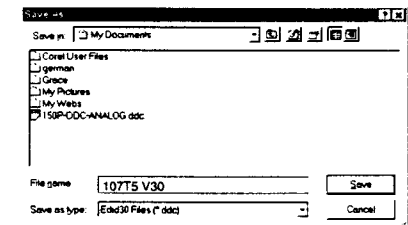

Fig. 19
1. Click (Save) icon (or click "file->save as") from the tool bar and give a file name as shown in Fig. 19. The file type is EDID301 file (*.ddc) which can be open in WordPad. By using WordPad, the texts of DDC data & table (128 bytes, hex code) can be modified. If DDC TEXTS & HEX Table are completely correct, it can be saved as .ddc file to re-load it into EEPROM for DDC Data application.